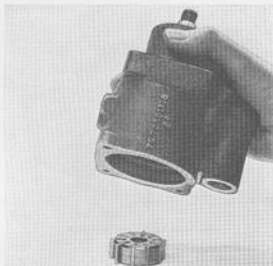

Fig. 6-105. Removing rotor
2. Remove the circlip (20) with polygrip pliers.
3. Remove the cover (19), spring (22) and plate (18). Use polygrip pliers.
4. Shake out the intermediate piece (16) and rotor (25), see Fig. 6-105. If it is not easy to remove the intermediate piece, allow it remain until later on.
5. Remove the circlip (5) at the drive end.
6. Carefully press out the shaft (4).
7. Press the plate (14) out of the housing. The intermediate piece should follow at the same time, if not already removed.
8. Screw out the plug (23) and shake out the spring (26) together with the valve (27).